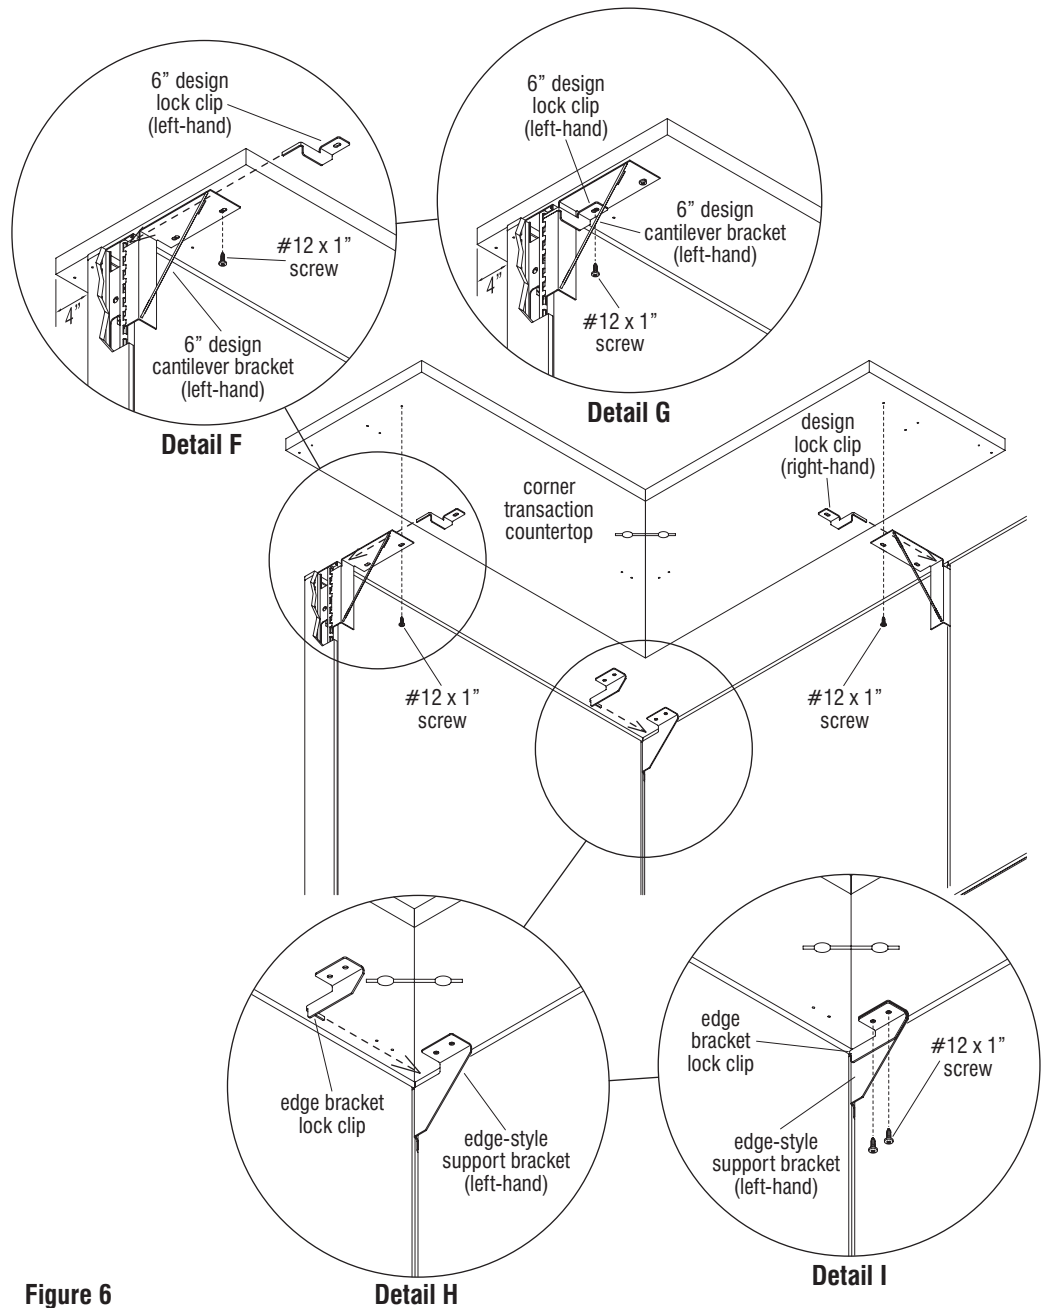

Figure 6
5. After the two design cantilever brackets, as well as the corner edge-style bracket have been installed to the workstation side of the panel, position the corner transaction countertop assembly onto the brackets as illustrated, with the smaller, 4" countertop overhang into the aisle side. Align mounting holes of the brackets with the pre-drilled holes in the underside of the corner transaction countertop. Using one #12 x 1" screw per bracket at the front side of the bracket (hole closest the worksurface user), secure the bracket to the transaction countertop as illustrated (Figure 6 & Detail F).
6. Position a design lock clip as illustrated (Detail F) and insert the thin prong end of the clip into the top panel notch, just above the top tooth of the left-hand design cantilever bracket. Fully inserted properly, the mounting hole of the lock clip will align over the unused mounting hole in the cantilever bracket. Insert and tighten the second #12 x 1" screw to secure the clip over the cantilever bracket, and to the corner transaction countertop (Figure 6 & Details F & G).
the corner transaction countertop (Figure 6 & Details H & I). Finally, check and assure that all bracket mounting screws are tight. The corner transaction countertop should be snug and no movement should be felt (Figure 6 & Details H & I).